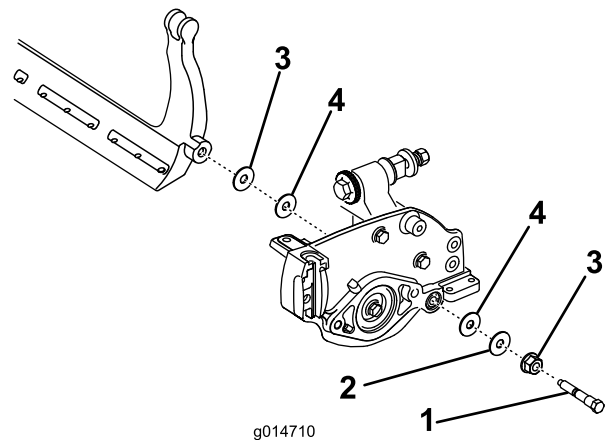

Figure 19
4. Remove each bedbar bolt allowing bedbar to be pulled downward and removed from machine. Account for 2 nylon and 2 stamped steel washers on each end of bedbar (Figure 19).